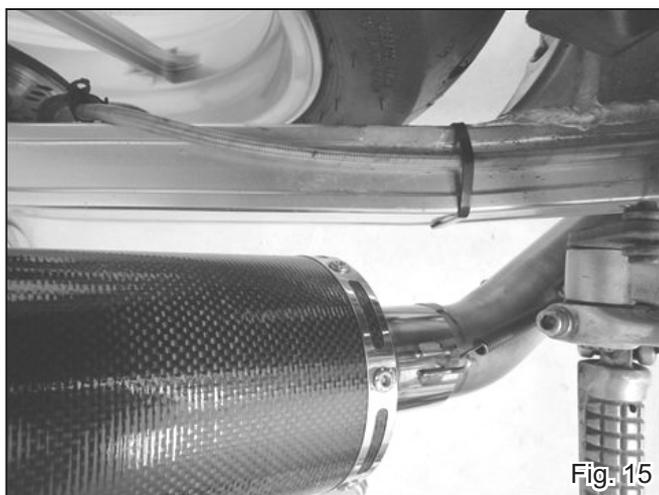

Fig. 15
- 15) Make sure there are proper clearance between Yoshimura exhaust system and other components such as swing arm. In case there is not enough clearance, loosen bolts and readjust the position of Yoshimura exhaust system. (See Fig. 15)